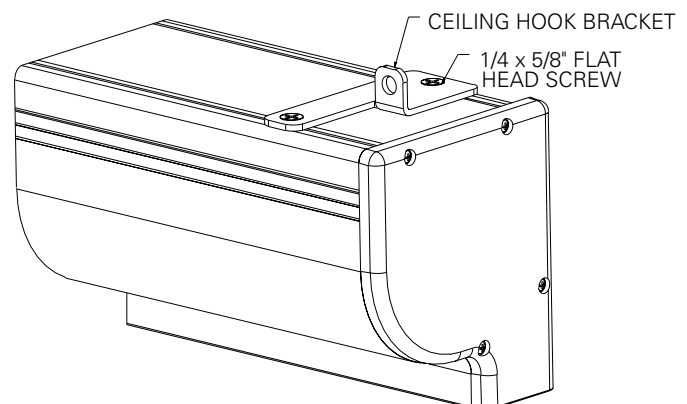

FIGURE 3
3. The top of the screen case has two channels with threaded nuts that slide the length of the case. Attach ceiling hook brackets as provided to the screen case as shown in figure 3.